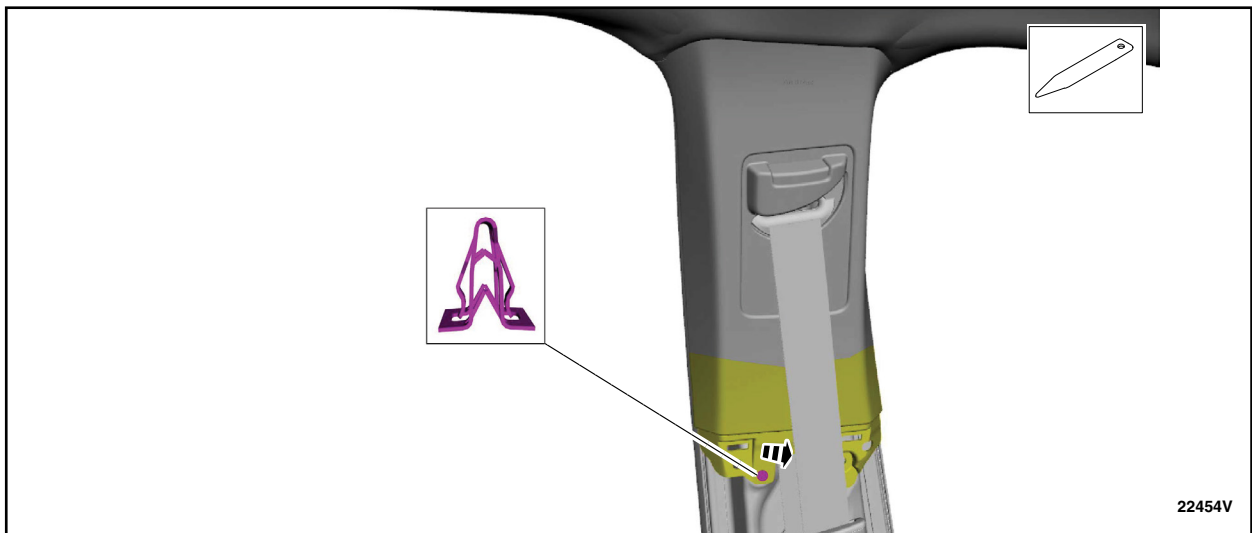

FIGURE 3
6. On both sides release the B-pillar upper trim panel lower clip. See Figure 3.